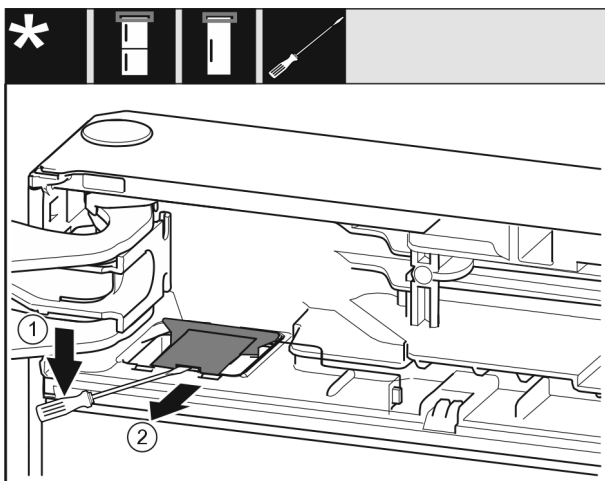

Fig. 12
- ▶ Use a screwdriver to snap out the cover Fig. 12 (1).
- ▶ Pull out the cover Fig. 12 (2).